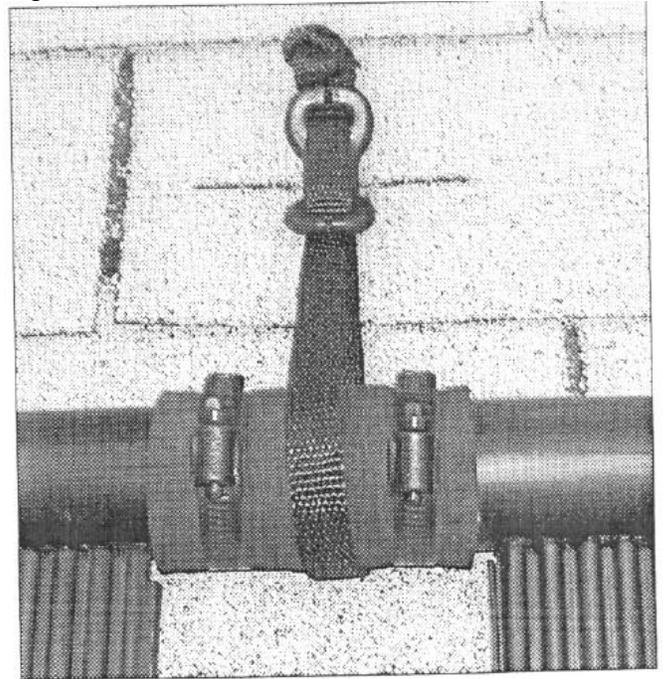

FIGURE 8
6. Position the collectors on the roof so that center of the outlet header connection hoses are beneath the secured outlet header hold-down bracket. Using the 30 inch length of strap provided, loop the strap around the connection hose, pull both strap ends through the slots of the bracket and secure the strap in the bracket by tying the loose ends into a knot as shown in Figure 8.